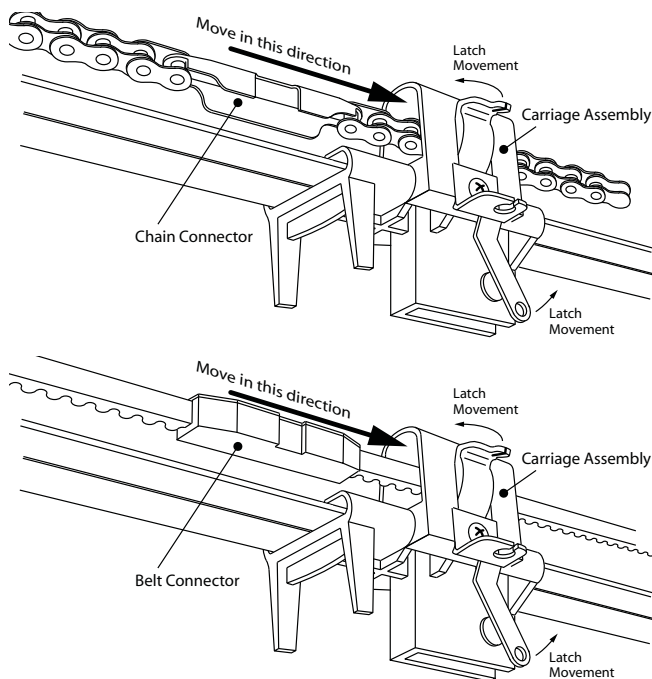

FIG. 6-2 Engage Chain/Belt Connector to Carriage.
1. Press and hold the "Close Travel Limit"  button until the chain or belt advances and engages to the Carriage Assembly (FIG 6-2).